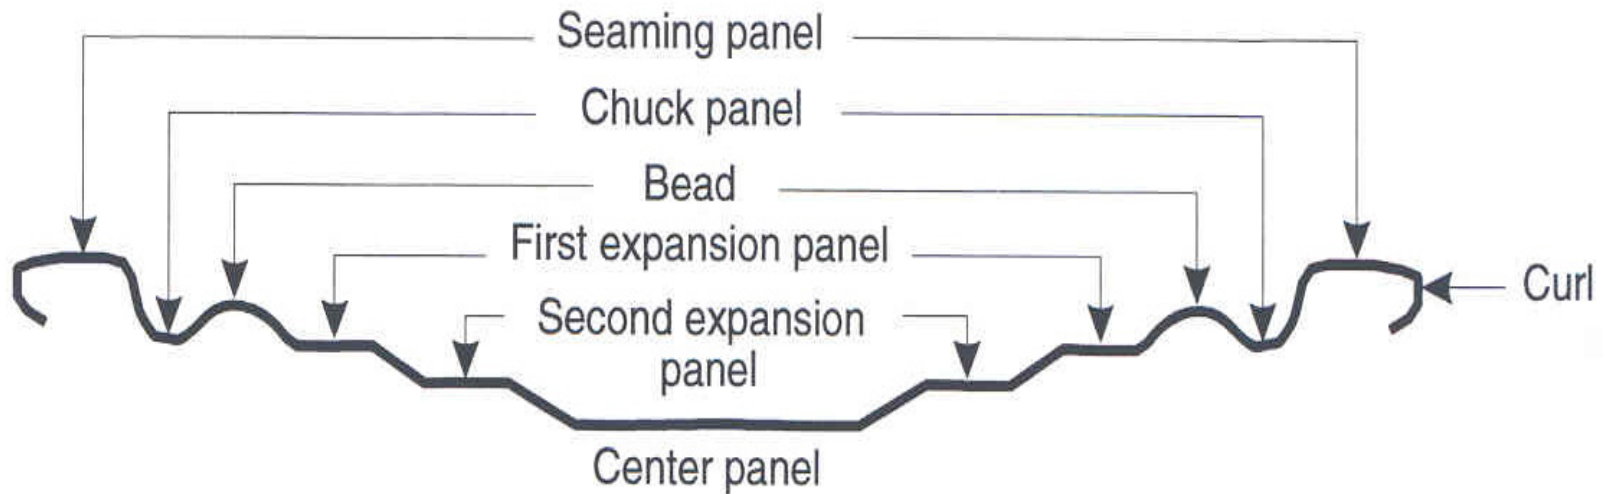

Figure 5.5 Typical can-end embossing pattern
- Can ends intended for thermal processing and a series of circular expansion panels (Figure 5.5).